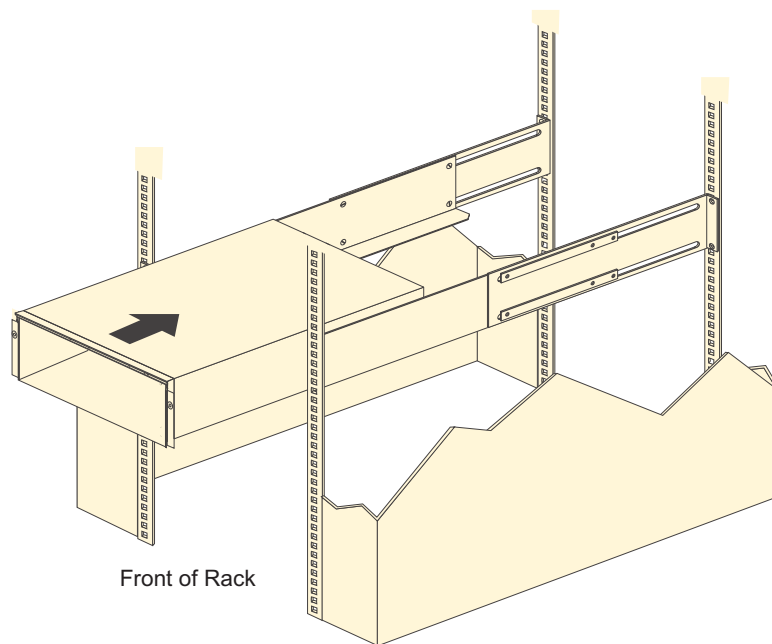

Figure 18. Installing the EXP810
- b. With help from another person, place the back of the storage expansion enclosure on the support rails, and then slide the unit into the rack as shown in Figure 18.